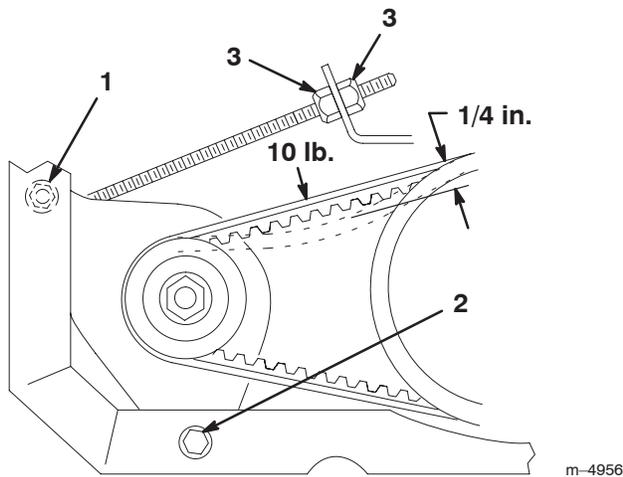

Figure 39
2. Loosen the starter generator nut and pivot bolt (Fig. 39).
3. Adjust the jam nuts on the starter rod (Fig. 39) until the belt flexes 1/4 in. (6 mm) with 10 lb. (44.5 N) of force.
4. Tighten the starter generator nut and pivot bolt (Fig. 39).